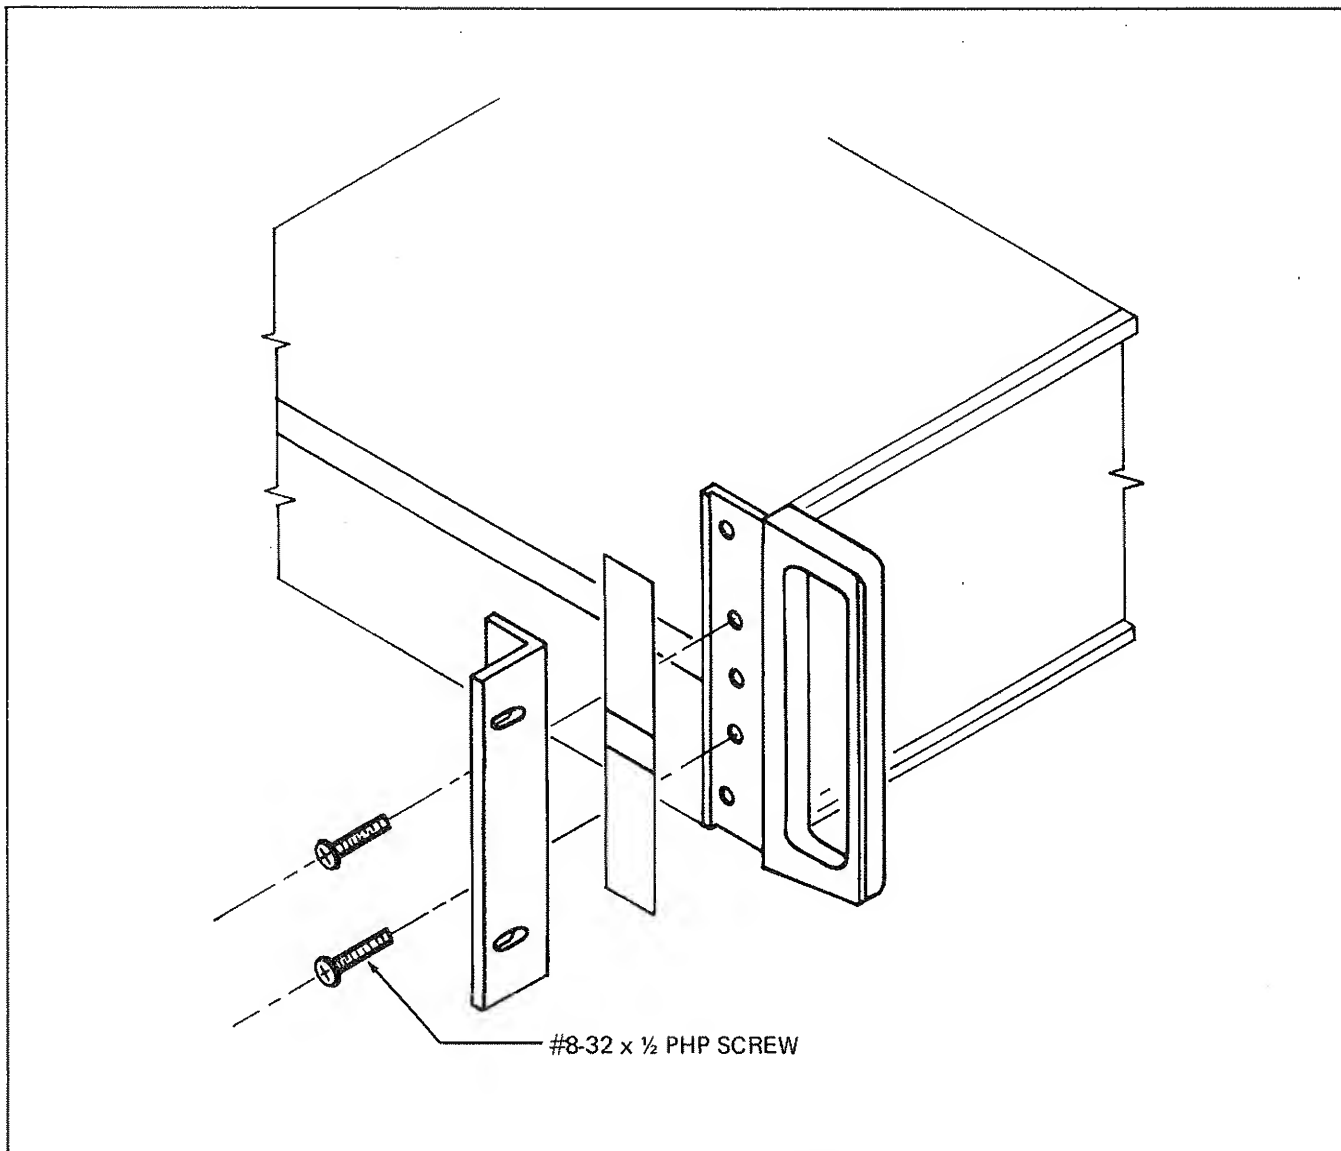

Figure 600-1. Rack Mounting Kit
2. Remove the front corner screws which match the hole pattern in the rack-mounting ears (see Figure 600-1).